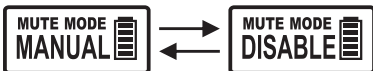

Fig. 9
6. MUTE MODE: audio mute, Fig. 9
- (A) Two parameters: MANUAL and DISABLE.
- (B) Press the MODE button to access the RF POWER parameter. Press the SET button, the parameter value flashes. Press the SET button again and the values rotate by each press. Press the MODE button to save the selected value or the value will save automatically when it stops flashing.
- (C) MANUAL: MUTE is controllable by pressing the external MUTE button.
- (D) DISABLE: Mute is disabled and cannot be muted in any method.